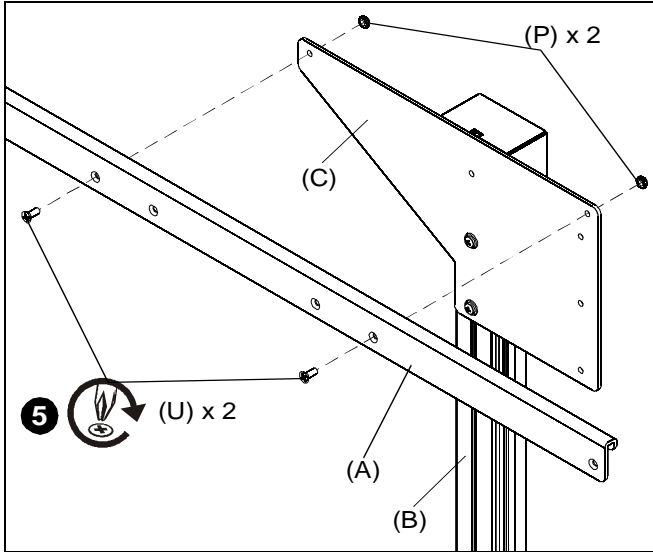

Figure 7
6. Attach upper rail (A) to upper rail support (C) using two 10-24 x 1/2 Phillips flat head screws (U) and two 10-24 nylon lock nuts (P). (See Figure 7)